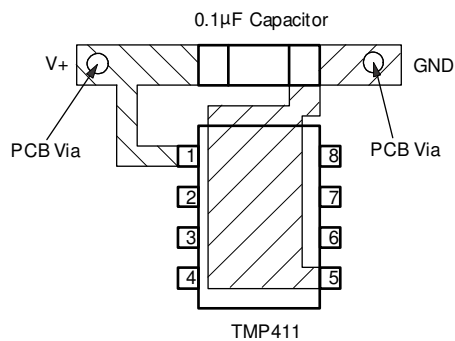

Figure 9-11. Suggested Bypass Capacitor Placement
- Use a 0.1 μ F local bypass capacitor directly between the V+ and GND pins of the TMP411/TMP411D, as shown in Figure 9-11. Minimize filter capacitance between D+ and D– to 1000pF or less for optimum measurement performance. This capacitance includes any cable capacitance between the remote temperature sensor and the TMP411/TMP411D.